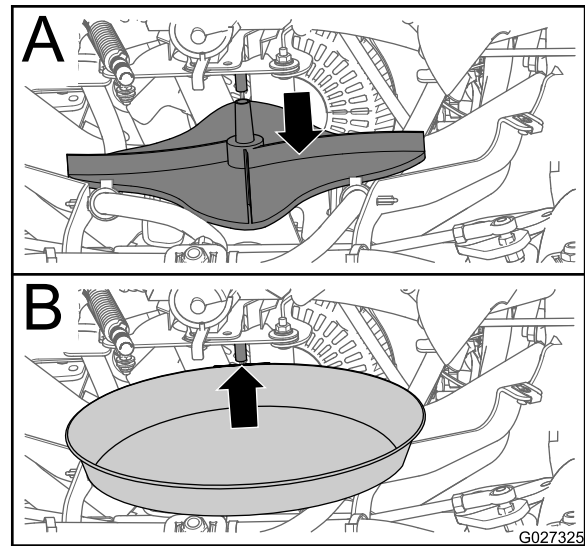
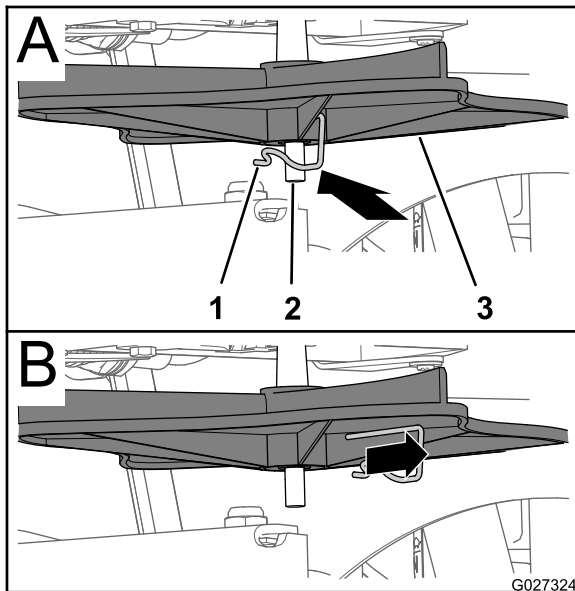

Figure 34
Figure 33
5. Place a shallow pan under the shaft of the impeller motor (Figure 34).
4. Remove the drive pin that secure the impeller to the shaft of the impeller motor, and remove the impeller from the shaft (Figure 33 and Figure 34).